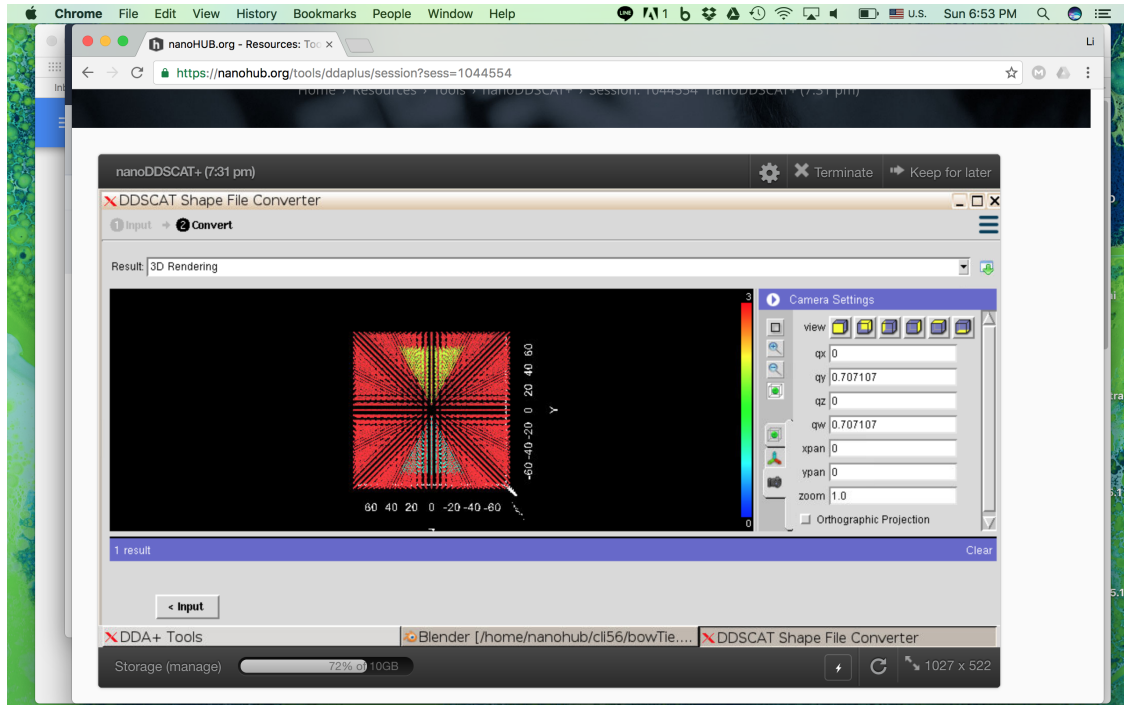

Figure 23: The 3D rendering result of the discrete dipoles. The 3 different objects (2 bow tie structures and 1 membrane) are colored by their indices.
Once the conversion finished, you should see the output log. You can choose to see different output using the result drop-down menu. Choose the “3D Rendering” result and you should see the 3D rendering result of the discrete dipoles, Figure 23. The 3 different objects (2 bow tie structures and 1 membrane) are colored by their indices. We will use those indices to assign different dielectric constants in DDSCAT.
Then, we can assign the dielectric constant for each object, Figure 26. To identify which compositions are the two bow tie structures and the membrane, we need to recall the 3D rendering result in Figure 23. In Figure 23, the two bow tie structures are colored in cyan and yellow, while the membrane is colored in red. From the color bar on the right, we know that the red represent the highest value (3). So, the index of the membrane is 3 and the indices of the two gold bow tie structure are 1 and 2. Let’s set the first two compositions as “Gold (Au)”. Set the third composition “Input Custom dielectric” and set the custom dielectric to “2”. Set the refractive index of the medium to “1.33”. Then, click “Spectrum Calculation”.